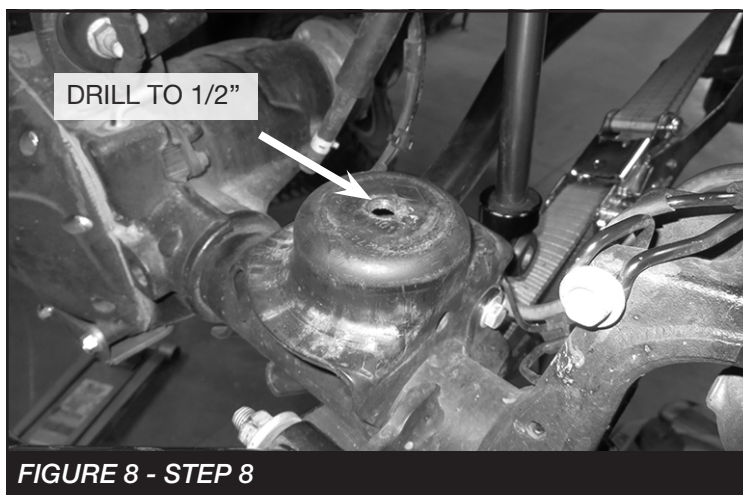

FIGURE 5 - STEP 6
6. Remove the factory hydraulic bump stop from the coil spring bucket. Save hardware. **SEE FIGURE 5**